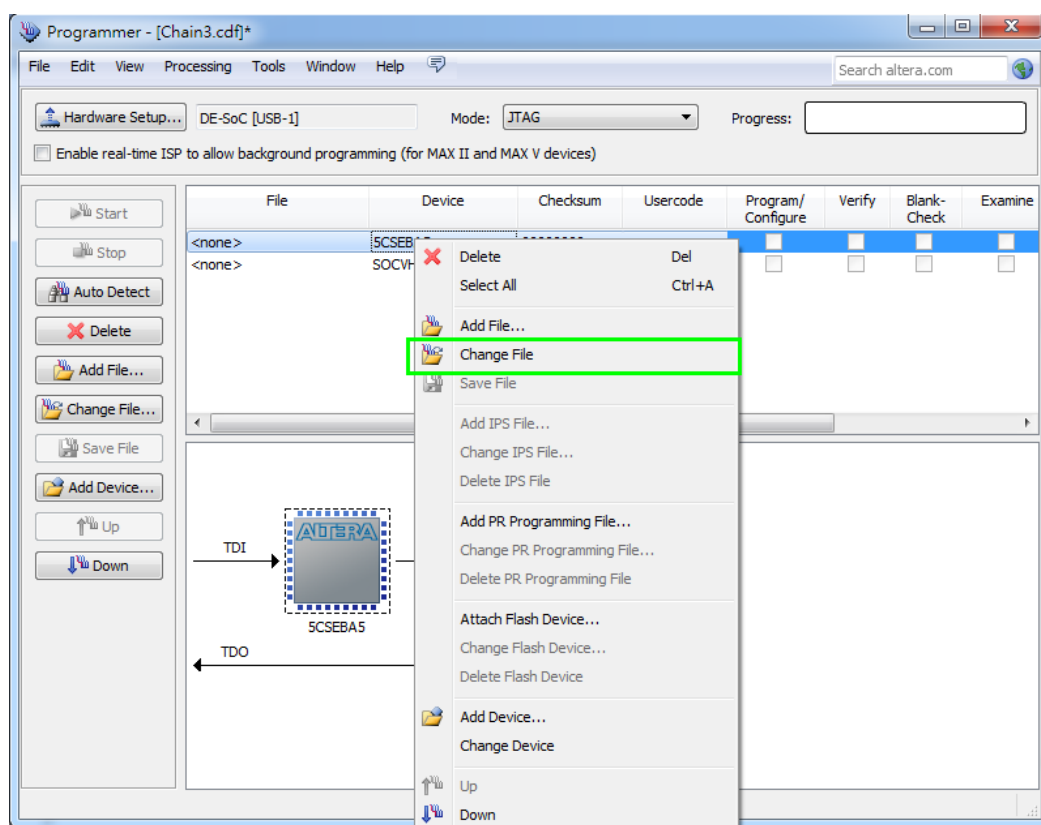

Figure 3-5 FPGA JTAG Programming Steps 4
- Click the FPGA device, right click mouse to popup the manual, and then select .sof file for FPGA as **Figure 3-5**